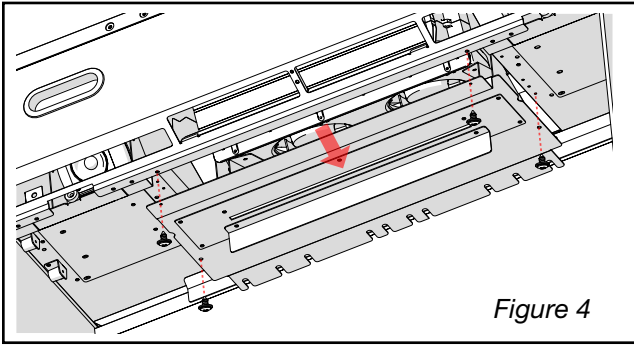

Figure 4
2. Remove the 4 screws on the heater assembly panel. Slide the plate back to release it. (Figure 4)